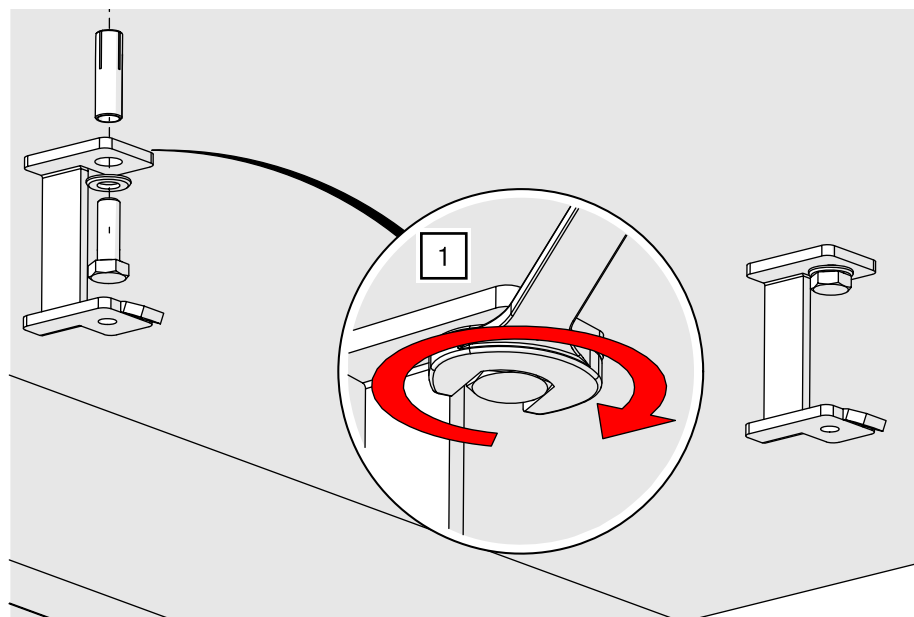

Fig. 61: Suspension for (double top) cord operation – Mount on ceiling
1. Screw the suspension for the cord operation to the ceiling using mounting material suitable for the substrate (assembly according to manufacturer's instructions; example concrete ceiling – see Fig. 61).